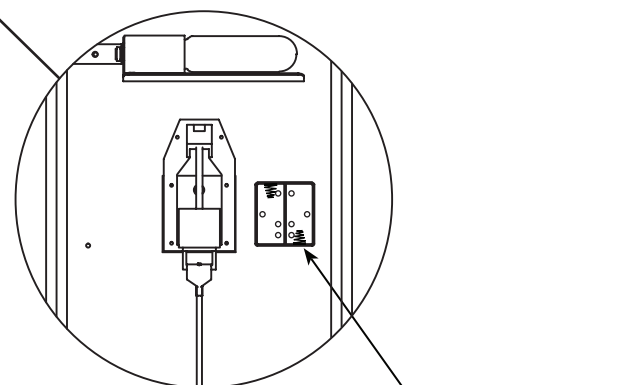

Figure 5
- d. Install two "C" size alkaline batteries in the pendulum driver Battery Housing. (Figure 5)